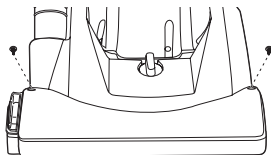

FIG. 22
Step 2: Remove the two screws from the top of the hood (FIG. 22).
Paso 2: Quite los dos tornillos de la tapa de la base (FIG. 22).